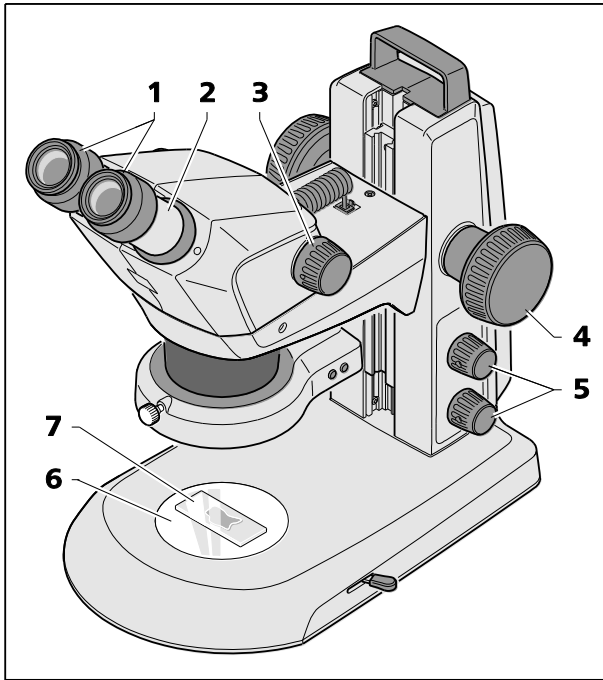

Fig. 18 Adjusting the stereo microscope
1. Place specimen (Fig. 18/7) centrally on the glass or plastic plate (Fig. 18/6) and illuminate it (Fig. 18/5).
2. Set diopter compensation on the adjustable eyepieces (Fig. 18/1) to "0".
3. Set individual eye distance by shifting the eyepiece tube laterally (Fig. 18/2), until only **one** complete light circle (specimen field) is visible when looking into the eyepieces with both eyes.
4. Initially, set the zoom (Fig. 18/3) to the smallest magnification.
5. Focus on a small distinct detail in the center of the specimen (Fig. 18/4).
6. Adjust maximum zoom value (Fig. 18/3). Magnification will probably make the distinct detail appear blurred and no longer in the image center.
7. Refocus the observed "distinct object detail" using the focus knob until it is observed "sharply" in the object field center again (Fig. 18/4).
8. Reset to the lowest zoom value (Fig. 18/3) and correct any image blurring by adjusting the diopter compensation **on the adjustable eyepieces for each eye separately** (compensation of visual defect) (Fig. 18/1).
For this final step, **do not use** the focusing knob, Fig. 18/4.